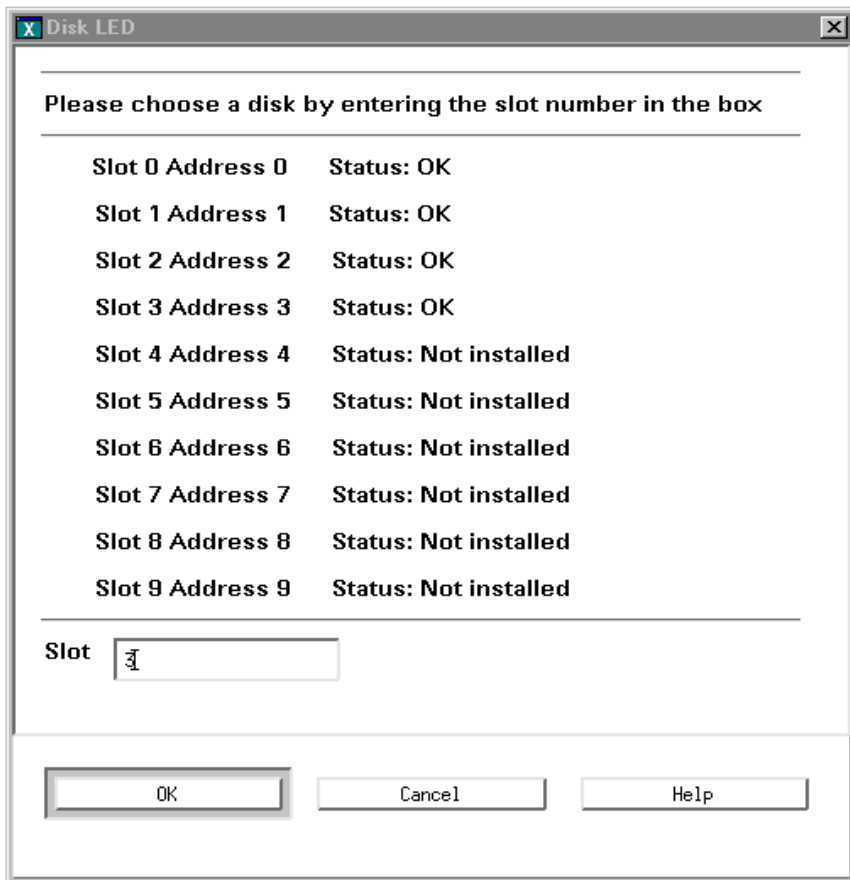

Figure 41 STM Disk LED Window
3. Select **Disk LED On** from the **Utility** menu. STM displays a the slot number (0-9), the loop ID (address), and the status of each disk in the disk system (see Figure 41).
2. Select **Disk LED Off** from the **Utility** menu. STM displays the list of disk slots (0-9) in the disk system (see Figure 41).